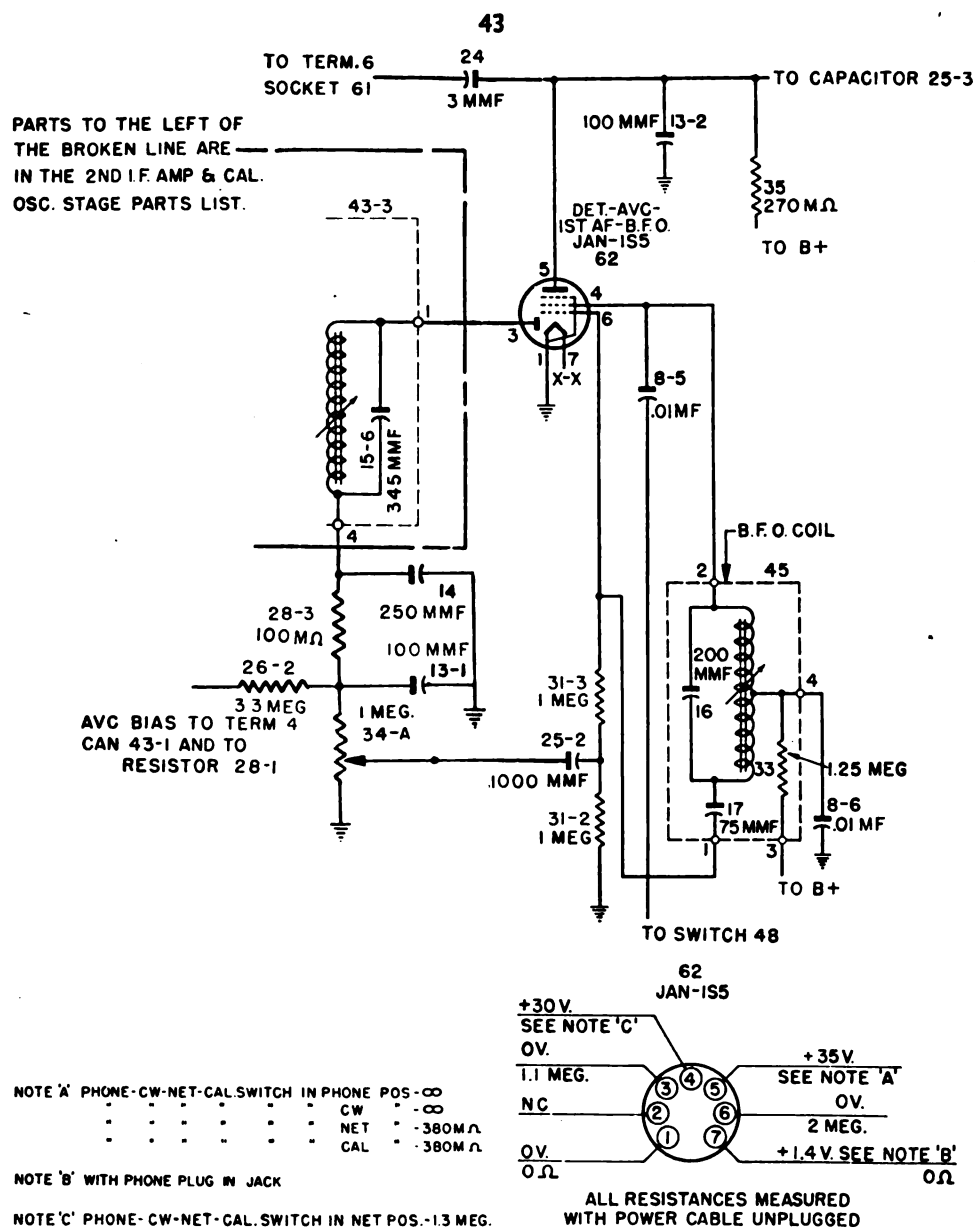

Figure 35. Detector, first a-f amplifier, a-v-c, bfo stage schematic, for receiver of Radio Receiver and Transmitter BC-1306. TL 70788
a. STAGE DATA. (1) Detector, first a-f, a-v-c, bfo stage schematic, figure 35.
(2) Voltage and resistance values for socket 62, stage schematic.
(3) Parts data for detector, first a-f, a-v-c, and bfo stage, table XVI.
b. TROUBLE LOCATION. (1) *Tube check*. Remove the tube from socket. Test it with the tube checker and replace with a new tube if necessary. In replacing tube, see that it is seated firmly in its socket.
Table XVI. Parts data, det., first a-f, a-v-c, bfo stage (receiver) (fig. 35).